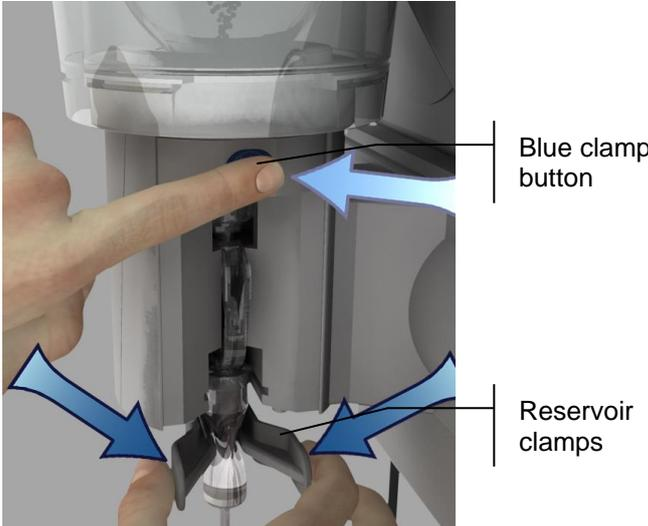

Figure 82: Reservoir filling message and procedure
- When the bottle has been defined, check the reservoir and, if necessary, use the reservoir clamps to fill it completely (see *Figure 82: Reservoir filling message and procedure*).